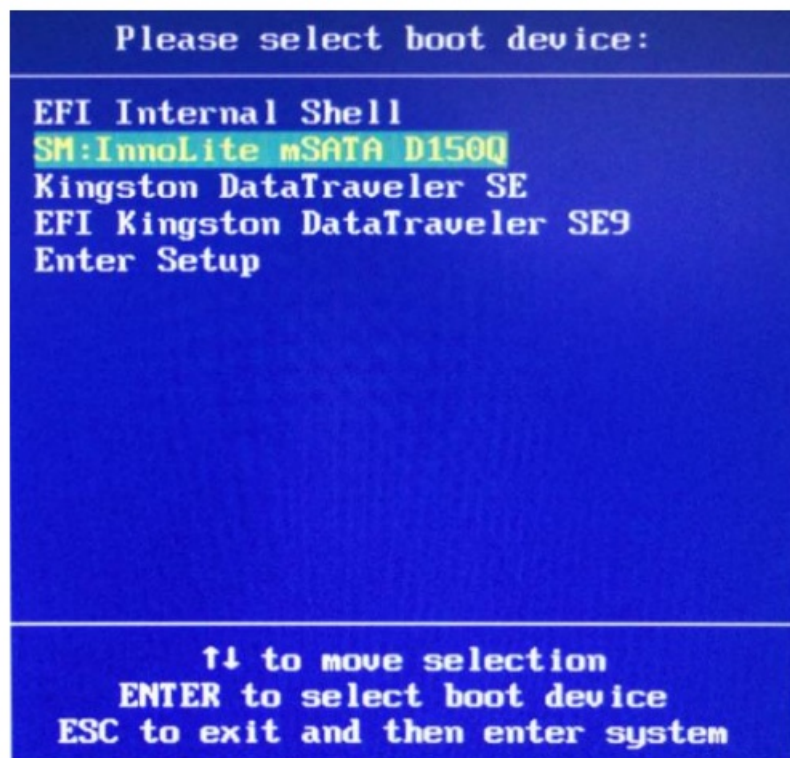

Figure 2-17 Boot Device setup in BIOS
9. The DE2i-150 will automatically restart several times during the installation of Windows note: Users will need to set the boot device from USB Flash drive back to the mSTAT SSD after the installation is successful (press “F10” when the BIOS logo shows up and set the boot device to “SM: InnoLite mSATA D150Q”, as shown in Figure 2-17).